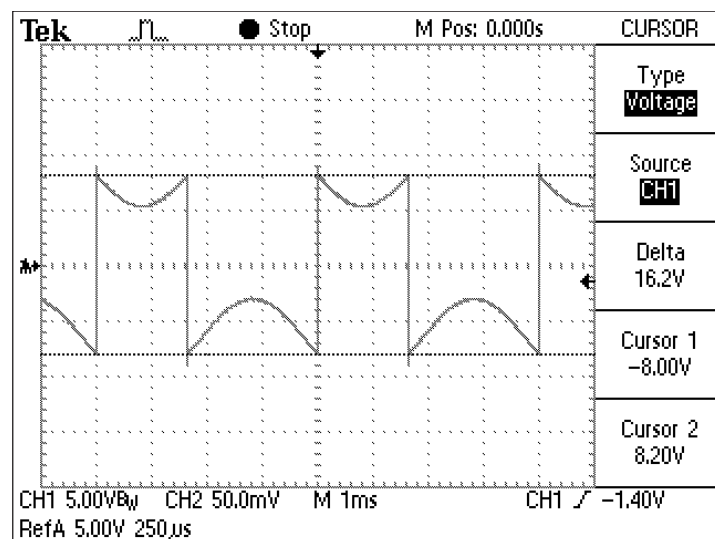

Figure 4.7: Displacement signal when the counter overflows due a DC offset
As there is no lower frequency limit for the displacement decoder, it can also measure stationary signals (DC). After setting a certain displacement measurement range, a certain voltage is present at the output (the so-called DC offset) which depends on the distance of the object to the sensor head and on the thermal drift of the interferometer. Dynamic displacements of the object (AC) are correctly added to or subtracted from this DC offset as long as the output voltage does not exceed $\pm 8\text{V}$. Otherwise the output voltage will jump from the positive end of range to the negative and vice versa as the internal counter overflows (refer to section D.5.3), and as a result the AC signal is distorted. This is shown as an example in the oscilloscope trace in figure 4.7.